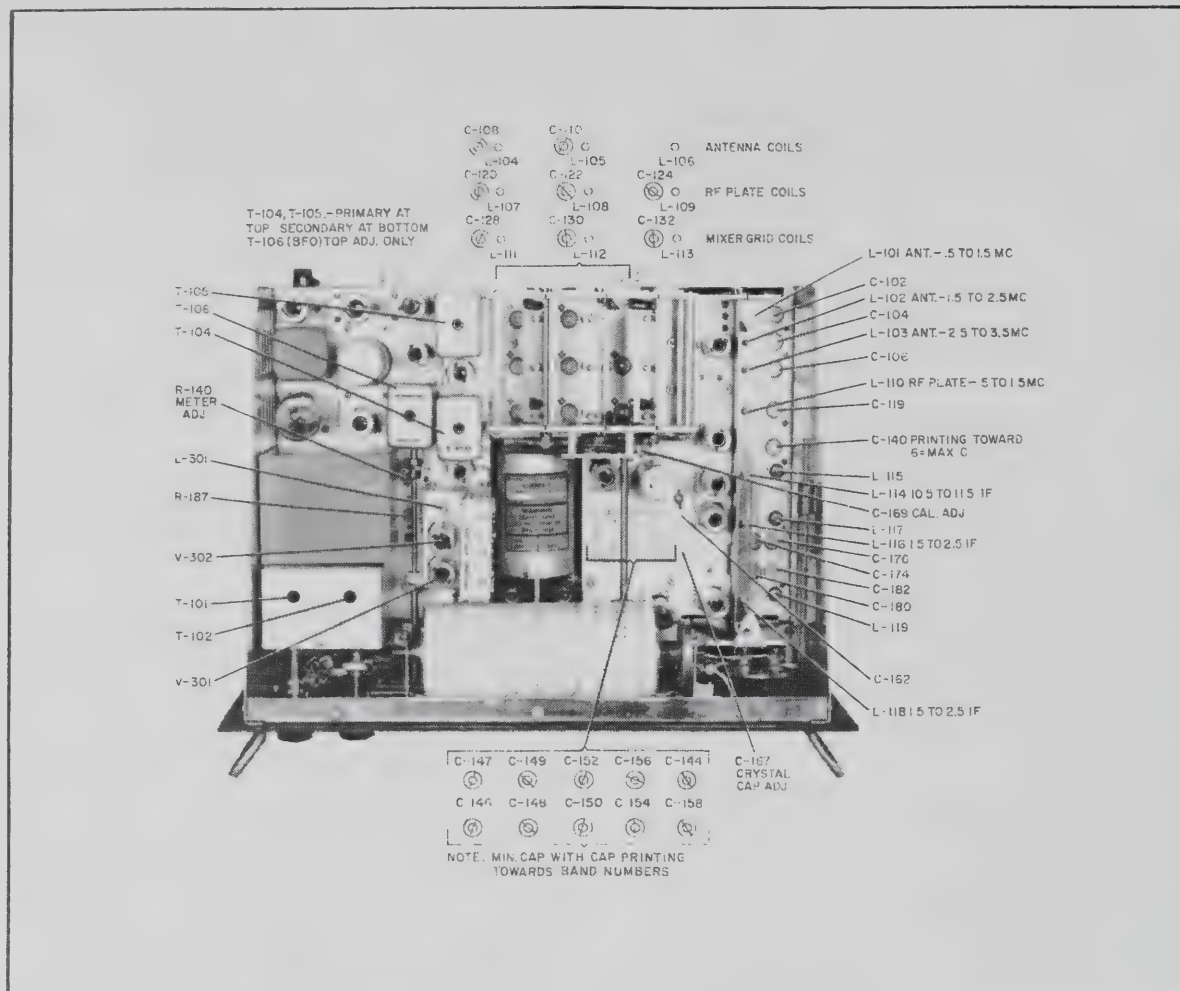

Figure 5-1. 51J-4 Alignment Adjustments
(c) In all of the following adjustments, peak the trimmers if the indicated voltage is not more than 2 volts. If it is more than 2 volts, detune trimmer toward minimum capacitance, until the voltage reads 2. See figure 5-1.
(g) If the BFO PITCH knob has never been off the shaft during the life of the receiver, align the BFO as follows: Turn BFO on. Set the line on the BFO PITCH knob at the fiducial mark on the panel. Adjust core in T106 (figure 5-1) to zero beat.
(2) Line up the crystal filter PHASING control knob with the panel mark and with the mid-range position of the phasing capacitor. To accomplish this, with the aid of a flashlight look into the right-hand hole in the top of the crystal filter cover (see figure 5-1) in order to see the plates of the phasing capacitor. Turn the PHASING control until the rotor plates are straight down toward the bottom of the receiver, i. e., until the rotor plates completely engage the bottom set of stator plates. Loosen set screws in PHASING control knob. Set knob line 90° to the left of the panel mark. Tighten set screws. Turn knob to panel mark. Phasing capacitor is now at mid-range.
(3) Connect the frequency modulated signal generator lead to pin 7 of V106. Connect oscilloscope lead to junction of R150 and R152. Turn on generator and oscilloscope and allow them to warm up.
(4) Turn SELECTIVITY switch to position 1. Select 3 kc filter, turn AVC off, LIMITER off, BFO off, CALIBRATE off and AUDIO GAIN to position 0. Tune receiver to carrier frequency of signal generator, which should be between 1.5 and 3.5 mc.
(5) Turn RF GAIN to mid-range and synchronize scope. Two fairly symmetrical peaks should appear on the scope screen. If they do not, adjust receiver tuning, RF GAIN and oscilloscope controls until they do appear. Each of these peaks is essentially an i-f response curve.
(6) Rotation of the PHASING control to the left should cause a rejection notch to appear at one side of each peak. If this notch does not appear, set the PHASING control about one-eighth turn to the left of center and adjust the core in top of T102 (accessible through the right-hand hole in the crystal filter cover) until it does appear and is well-defined